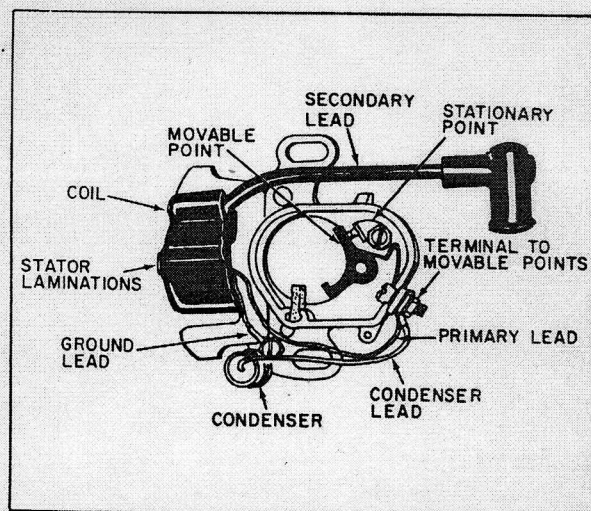

Figure 16
1. **MAGNETO IGNITION COMPONENTS -** Tecumseh's magneto ignition consists of a stator assembly mounted to the engine, Figure 16, and a magnet cast into the rotating flywheel.